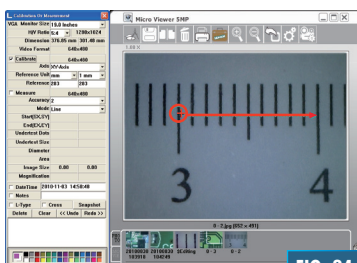

FIG. 24
5. Click and hold the right button of the mouse at the 3 centimeter line and drag the cursor to the 4 centimeter line (**Fig. 24**).